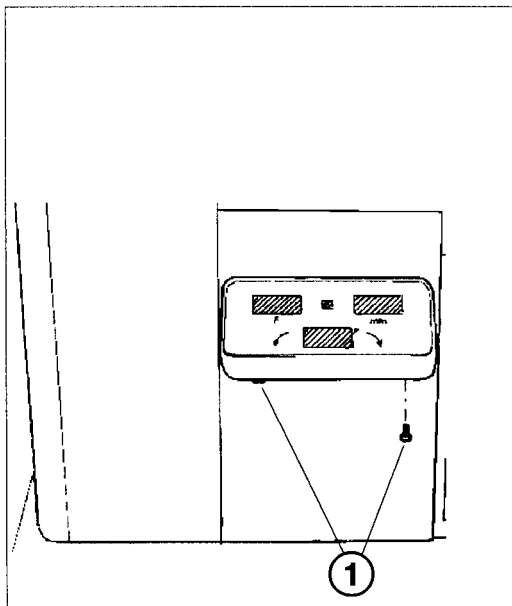

Fig. 7
- Remove the two screws at the bottom (1/Fig. 7).